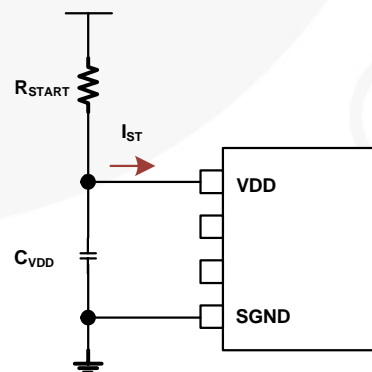

Figure 35. Equivalent Circuit During Startup
Figure 35 shows the equivalent circuit for estimating  $t_{start}$ . From the circuit analysis,  $V_{DD}$  variation versus time is given by:
- Refer to the Design Guide startup circuit in Figure 35. Due to reducing power loss on the startup resistor (R1) for high-efficiency systems, it is possible to use a higher resistor value than recommended. In this case, the IC doesn't reliably keep SD (shutdown) state for protection. Carefully select the startup resistor (R1) or use the recommended value (470k) to sufficiently supply shutdown current ( $I_{SD}$ ) and startup current ( $I_{ST}$ ).